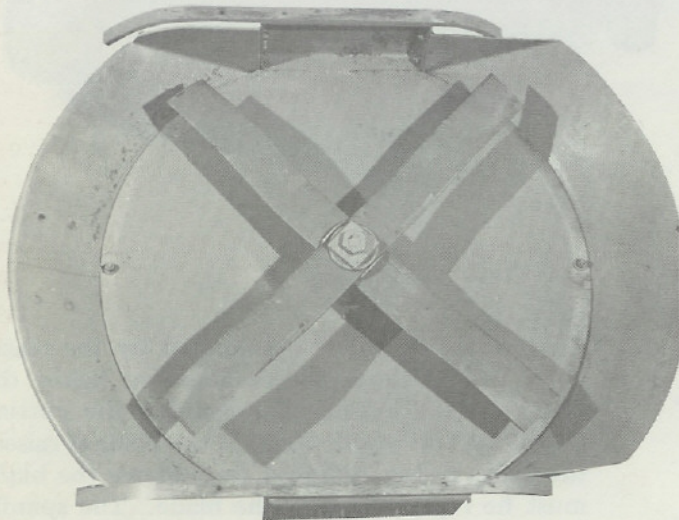

fig. 6
Twin Blade Assembly Installation: Install three loose collars (item 3), blade (item 67), stationary washer (item 66), the remaining loose collars, spindle nut washer (item 2) and nut (item 1). Torque nut to 100 ft. lbs. (135.6 Nm). See fig. 6.